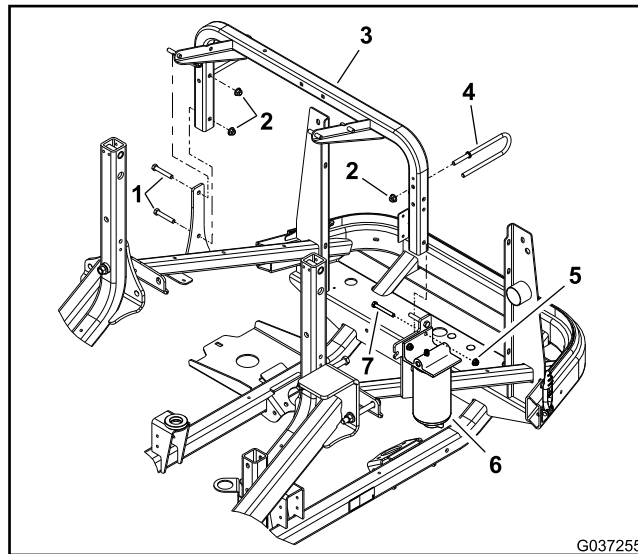

Figure 15
4. Remove both the hydraulic hose guides (item 4 in Figure 15) from the cross tube assembly.
7. Remove the cross tube with air cleaner assembly attached as shown in Figure 15.